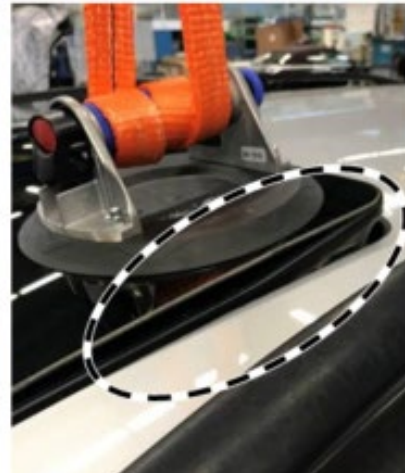

Figure 6 (NOT OK)
- i** If the sliding roof panel detaches from the padding of the tilting/sliding roof frame at one of the test positions (**see figure 6**), the sliding roof panel must be replaced.